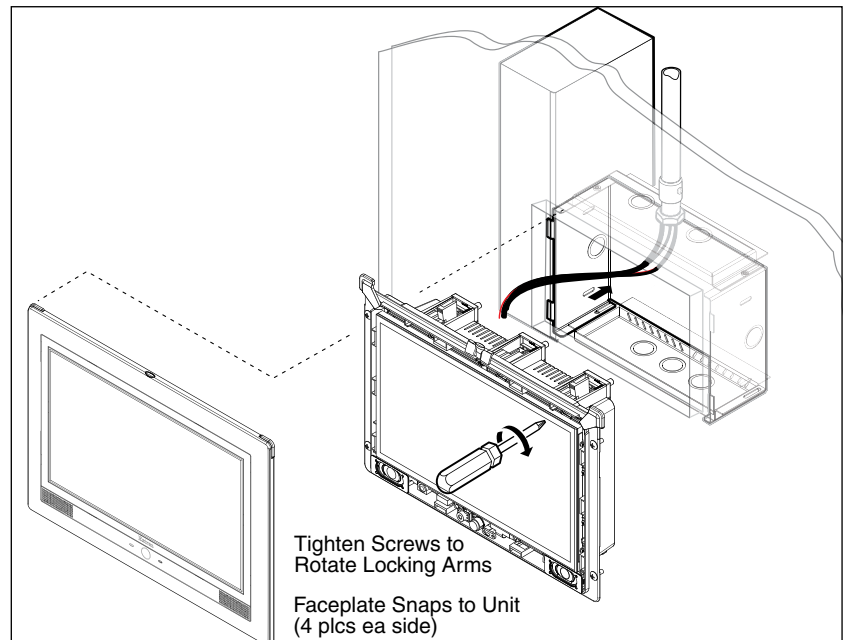

Figure 3.
11. Finish installing the TouchLink panel as shown in figure 3 and described in "Mounting the Touchpanel" on the next page.
4. Tighten the screws on the front of the unit so that the locking arms rotate into place behind the top and bottom plates of the wall box and hold the unit in place (see figures 3 or 5).
5. Snap the faceplate into position (see figures 3 or 5).